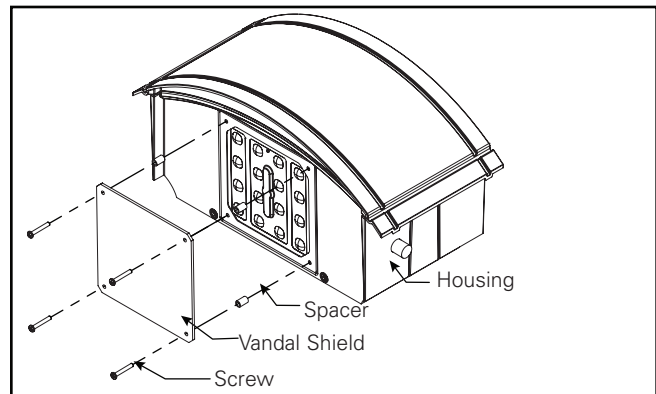

Figure 5.
1. Remove the four screws which secure the light square and trim ring to the fixture. (Figure 5.)